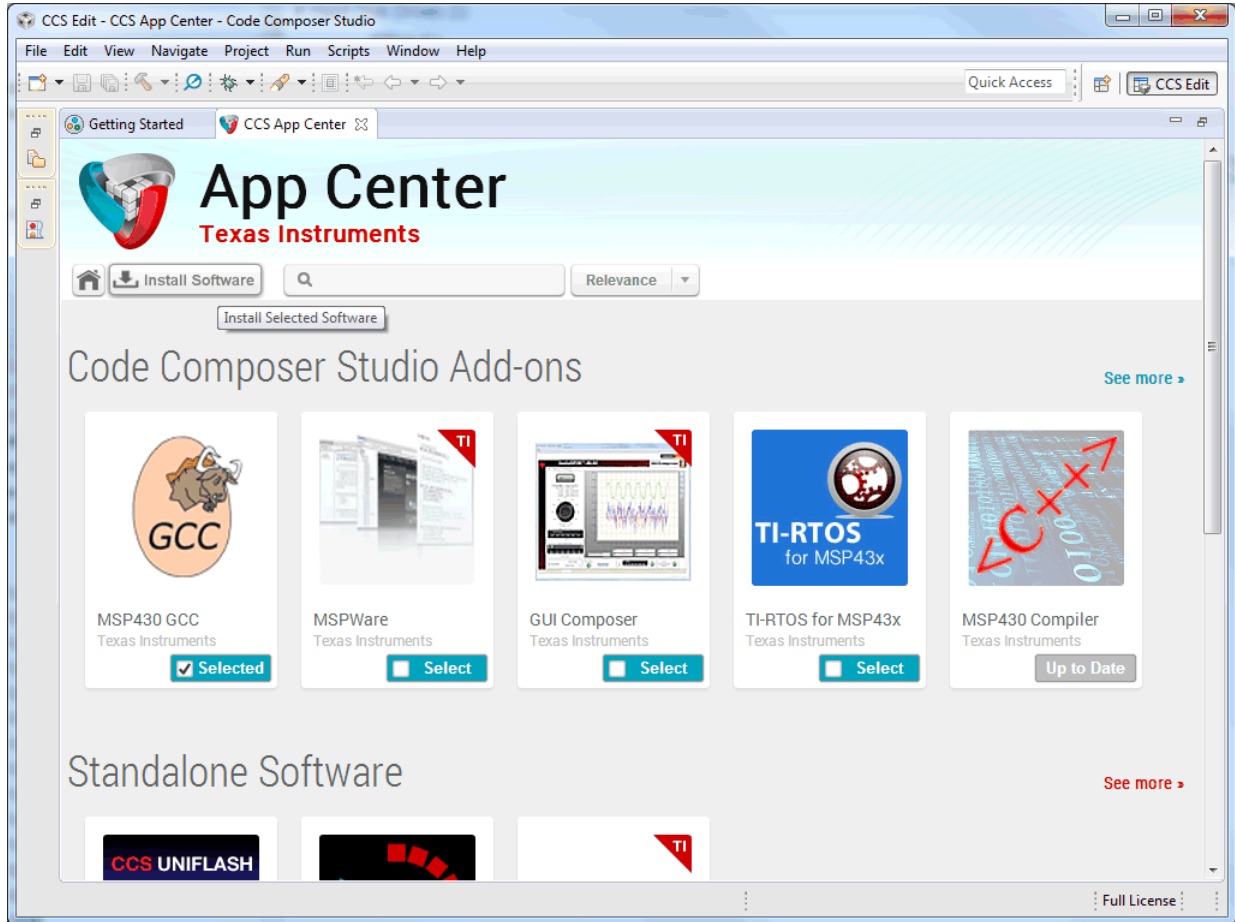

Figure 2-3. Installing MSP430 GCC Through CCS Apps Center
2. If CCS is already installed without MSP430 GCC, MSP430 GCC can be added at a later time through the CCS Apps Center (see Figure 2-3).